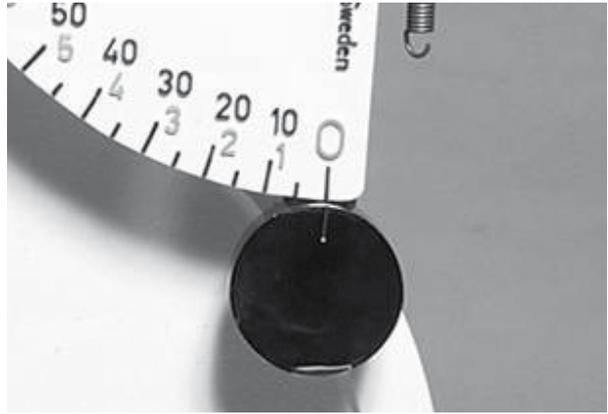

Fig: 0-position
2. Adjust the meter panel, see section "Zero adjustment of meter panel", so that the index line of the pendulum is opposite the 0-index of the scale, see *Fig: 0-position*.
3. Push alt. '5' in the main menu (calibration) and follow the instructions on the display. Hold the pendulum in 0-position and wait for a beep, see *Fig: 0 kp*. NOTE! The pendulum must remain stationary.
4. Move the pendulum to 2 kp and wait for a beep, move the pendulum to 4 kp and wait for a beep. Finally move the pendulum to 6 kp and wait for two beeps shortly after each other. See *Fig: 2 kp*, *Fig: 4 kp*, *Fig: 6 kp* and *Fig: 0 kp*.
5. Follow the instructions shown on the screen. See also *Fig: 2 kp*, *Fig: 4 kp*, *Fig: 6 kp* and *Fig: 0 kp*.
4. Hold the pendulum at 4 kp and turn the power on the bike again and wait for beep. Lower the pendulum to 0, see *Fig: 0 kp*. Wait for a beep.
Fig: 0 kp